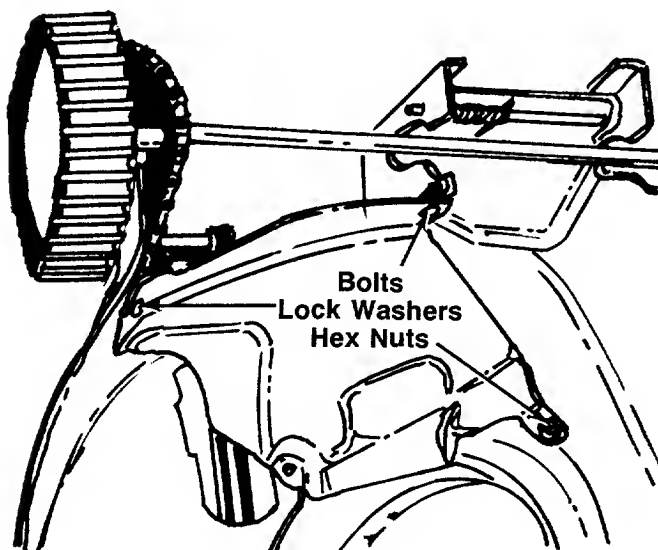

FIGURE 25.
9. Grasping the pulley, pull the pulley shaft from the deck. The chain can now be removed from the sprocket on the pulley. See figure 25.